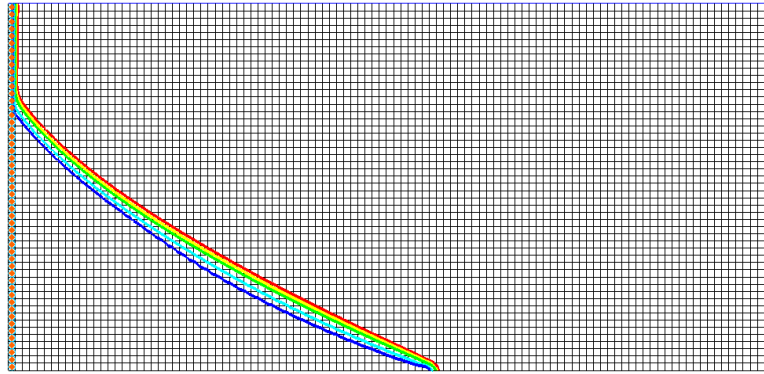

Figure 6 Time step 4 (after 15 minutes)
3. In the *Time Steps* window, select time step 4 (Figure 6).